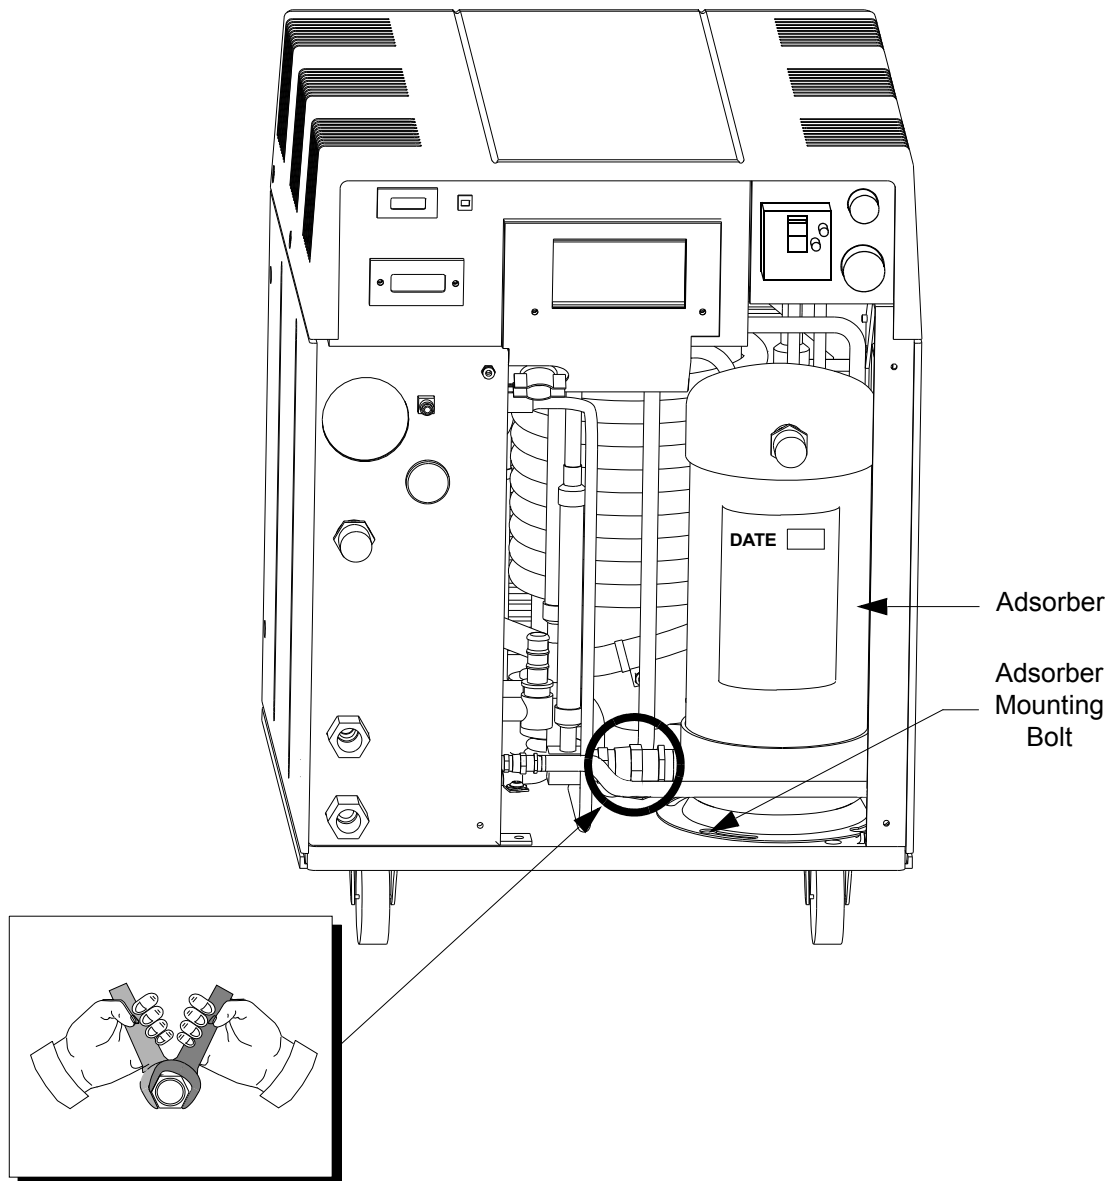

Figure 5-2: Adsorber Location within the 9650 Compressor (Rear Panel Removed)
4. Using a 7/16 in. (11mm) wrench, remove the adsorber mounting bolt as shown in Figure 5-2.
5. Move the adsorber from under the mounting tabs in the base as shown in Figure 5-2 and remove the adsorber from the Compressor.
10. Record the adsorber replacement date on the label as shown in Figure 5-2, and also note that the next adsorber replacement should be performed every three years.